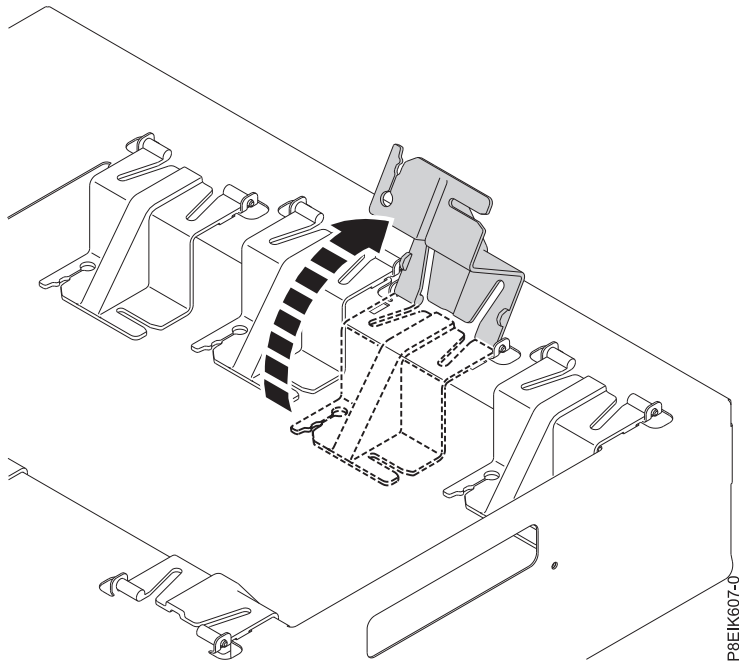

Figure 7. Pivoting the holder up to access a cold plate. Each plastic holder can pivot up as needed to access the cold plate.
- Each plastic holder can pivot up as needed to access the cold plates as shown in Figure 7 on page 7.